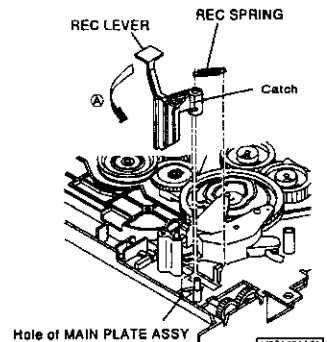

Fig. 2-14-1
- 1 Remove the REC SPRING shown in Fig. 2-14-1.
- 2 Move the REC LEVER in the direction shown by arrow (A) until it strikes on the MAIN PLATE ASSY to remove it as shown in Fig. 2-14-1.
- 1 Insert the catch of the REC LEVER shown in Fig. 2-14-1 into the hole of the MAIN PLATE ASSY and install the REC LEVER.
- 2 Install the REC SPRING shown in Fig. 2-14-1.